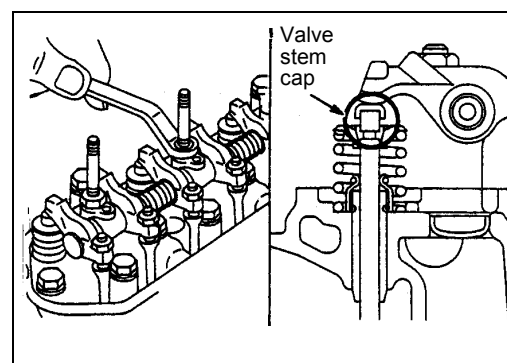

Fig. 3
- [5] Loosen the three nuts, then remove the rocker shaft assembly, and remove the stem cap. See Fig. 3.